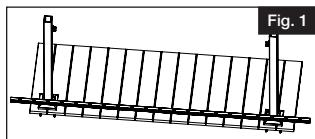

Fig. 1
- Determine the desired rail placement and snap a chalk line onto the mounting surface to ensure that all posts are aligned properly (Fig 1).
- Place bottom rail across post opening leaving equivalent spacing from last baluster to post on each end. Make sure there is even spacing from baluster hole to post (Fig. 1)